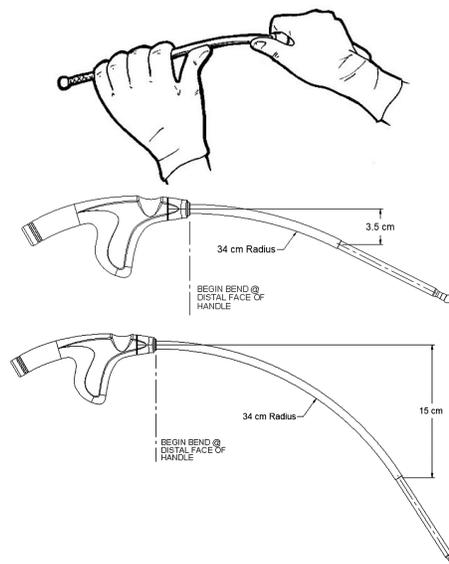

FIGURE 5: FORMING THE SHAFT RIGID REGION
- i The Rigid Region of the Shaft can be formed by hand and supports bending two times with up to the deflections illustrated in Figure 5.
- 8) Grasp the Rigid Region of the Shaft with both hands, as illustrated in Figure 5. Avoid applying load in area of the Shaft Transition.
- 9) Bend until the desired deflection is achieved, up to the maximum deflections illustrated in Figure 5.